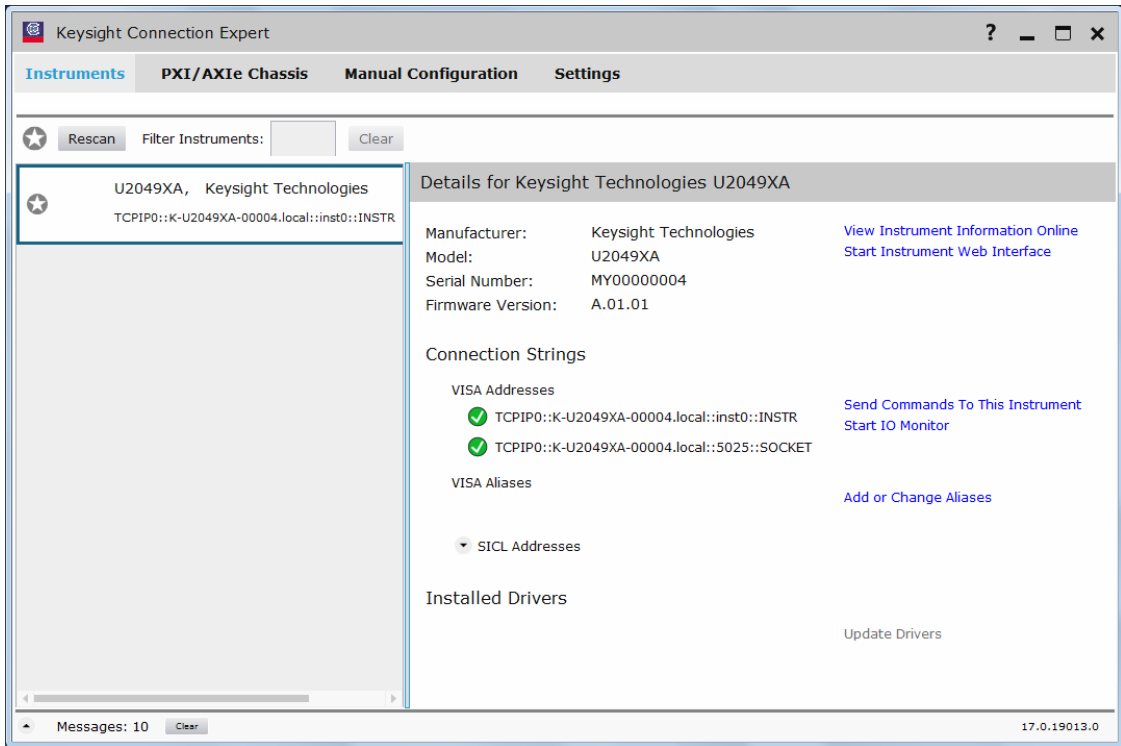

Figure 1-13 Auto-locate a LAN instrument in Keysight Connection Expert via Static IP
- 6 Launch the Keysight Connection Expert by selecting the IO icon (). Auto-locate the U2049XA as shown in **Figure 1-13**. Click **Rescan** to start searching.